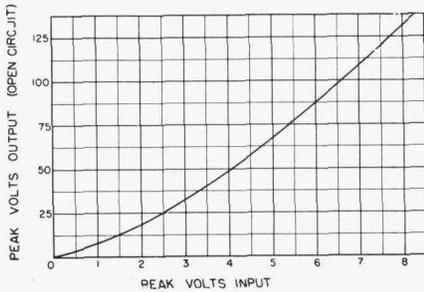

Figure 4. Linearity characteristic of typical -hp- Model 460B Amplifier.
**LINEARITY:** Similar to curve shown in Figure 4.